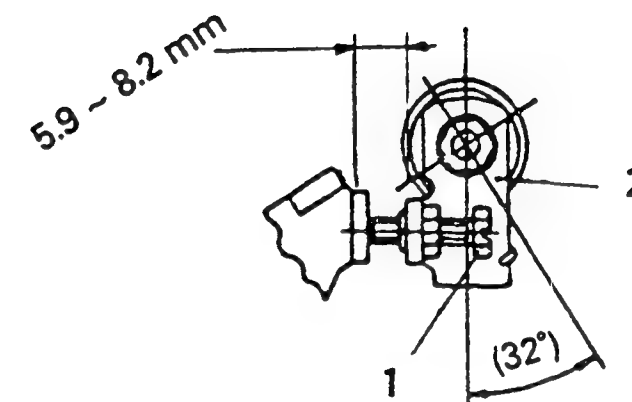

Fig. 44
Adjust the starting injection quantity (item 1-5) using the adjusting bolt (Fig. 44).